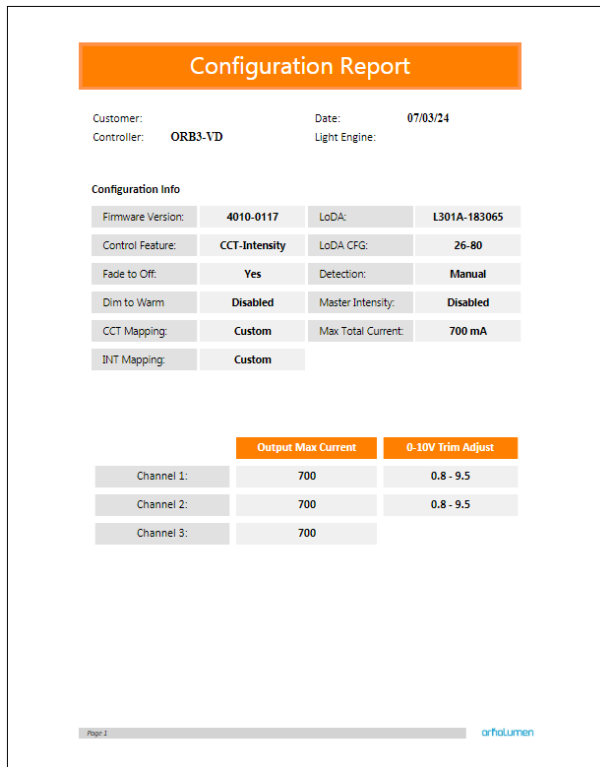

Figure 18: Example First Page of a Generated Report
5. Click **Generate Report**, the default web browser will open and display a preview of the print (shown in Figure 18).